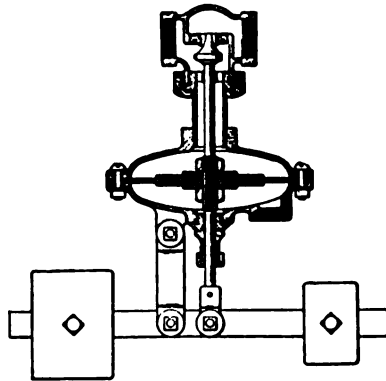

Fig. 108.—Automatic Relief Valve—Gorton System.
A. The air removal is accomplished by means of the automatic relief valve illustrated by Fig. 108, which is acted upon by the varying pressures created in the return pipe by reason of the presence of air or steam.